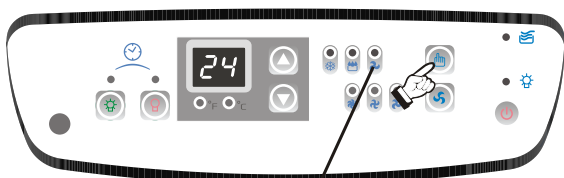

Fig. 19
2) Select the appropriate **MODE** under which you want the unit to operate (**Cool-Dry-Fan**) Fig.19.